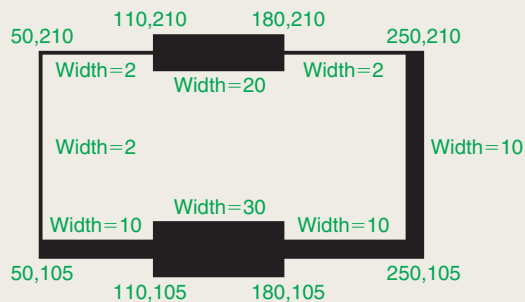

Fig. 2.35 Exercise 8
8. Construct the outline shown in Fig. 2.35.